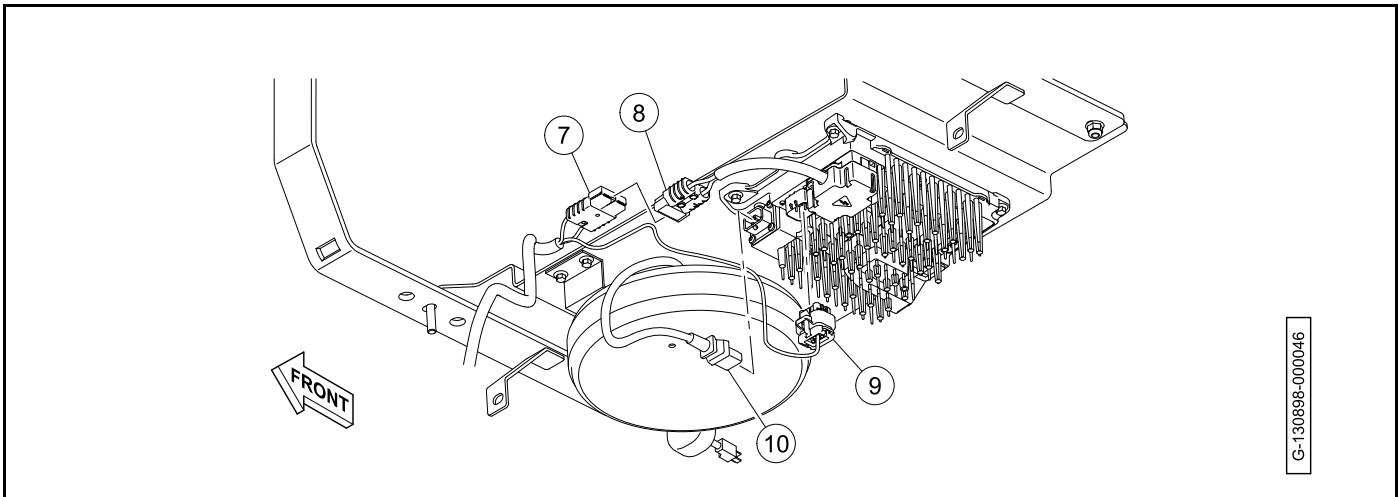

Figure 15-46 Harness Connections
- Install the insulator (4), nuts (5), and screws (6). Tighten the nuts to 17 in·lb (2 N·m).
3. Connect the charger harness (7) from the charger power harness (8) (**Figure 15-46**).